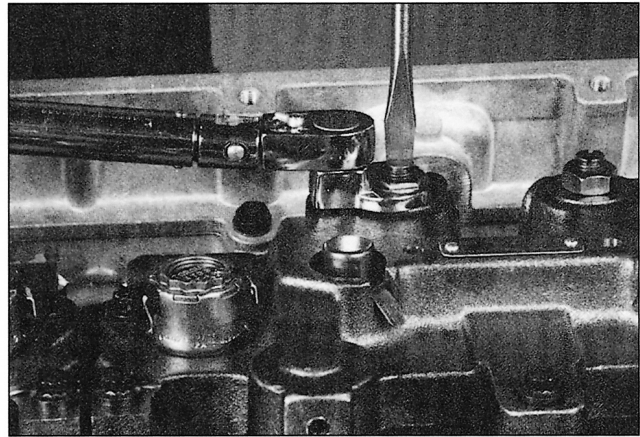

FIG. 15
5. Hold screw in position with a screwdriver (see Fig. 15) (Model 411E ONLY - Hold screw in position with wrench on hex head - See Fig. 15A). Torque locknut to 25 lb.-ft. (34 N•m)